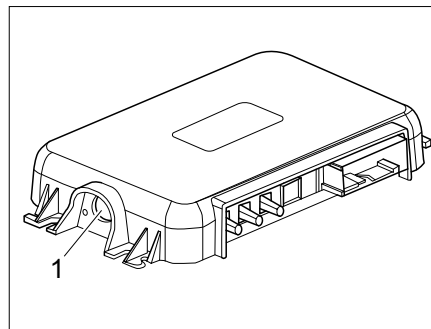

Fig. 288 Coupling button on the SCU
- Press on the SCU coupling button (Fig. 288,1).